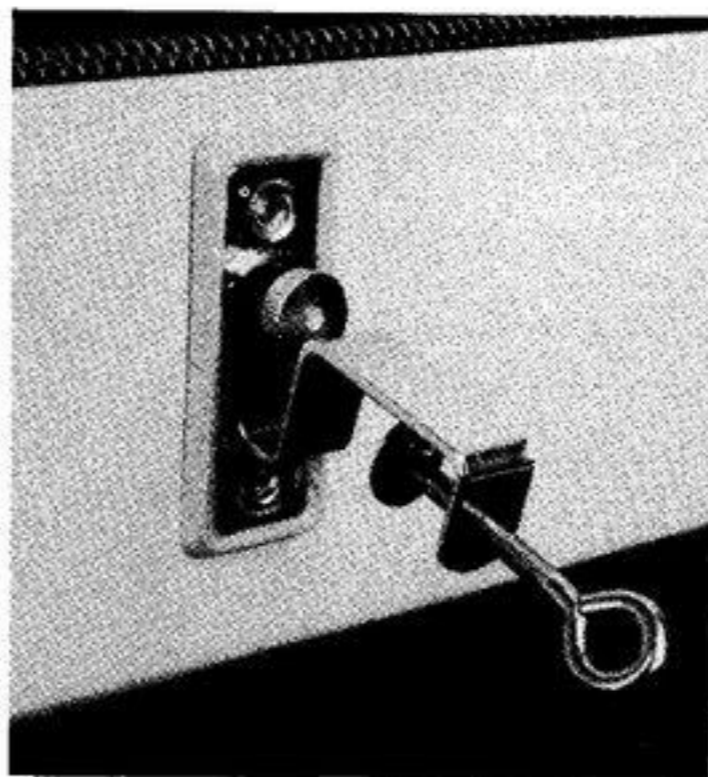

Fig. 8
4. Fit clamps over slides forward at base of the machine. (Fig. 8)